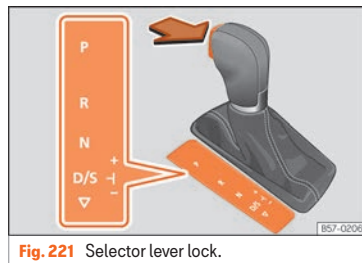

Fig. 221 Selector lever lock.
- Press the brake pedal *and*, at the same time, hold the lock button in the direction of the arrow »» Fig. 221.